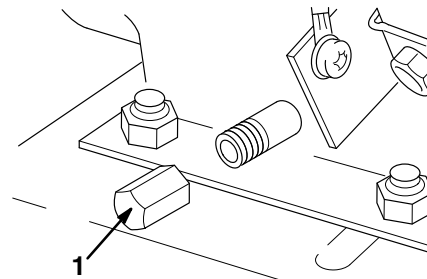

Figure 18
4. Clean the area around oil drain plug (Fig. 18).
5. Slide the oil drain pan below drain extension and remove the oil drain plug (Fig. 18).